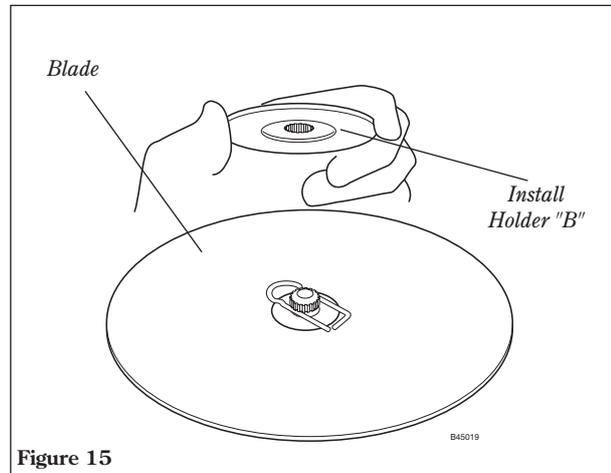

Figure 15
6. Install holder B on the gearcase shaft. See Figure 15.